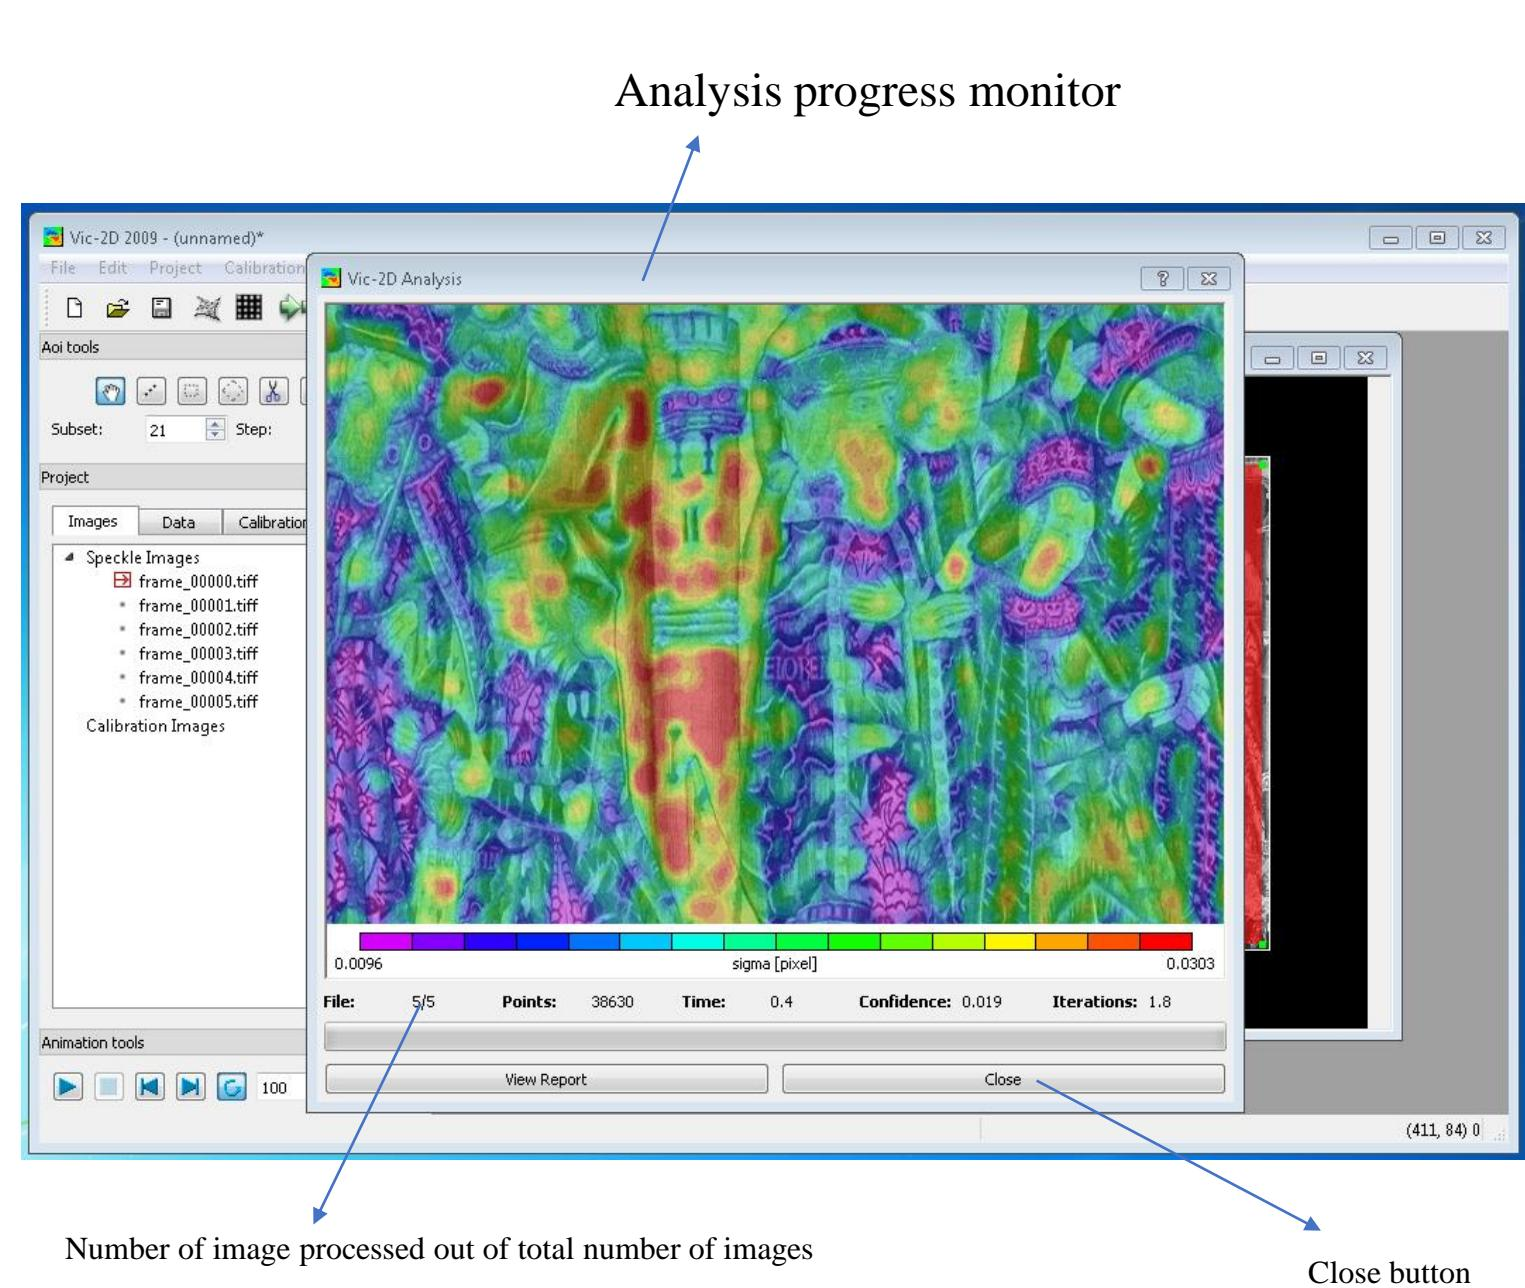

Figure 12
- Once the Run button has been pressed, the Analysis progress monitor appears as shown in the Figure 12.
- Vic-2D does not confirm the completion of the analysis, however, once the Close button becomes active (see Figure 12), it signifies the completion of the analysis.